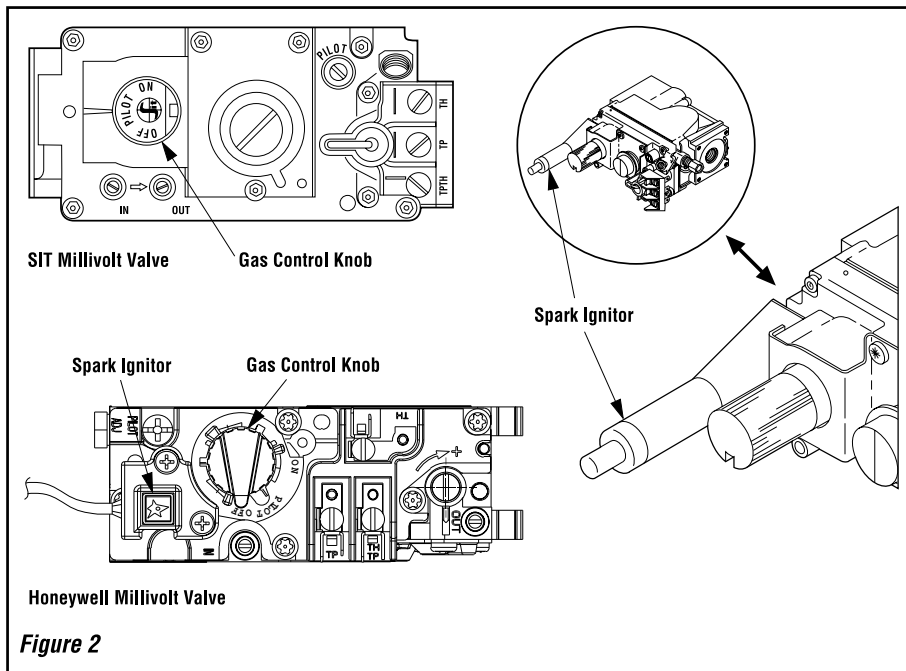
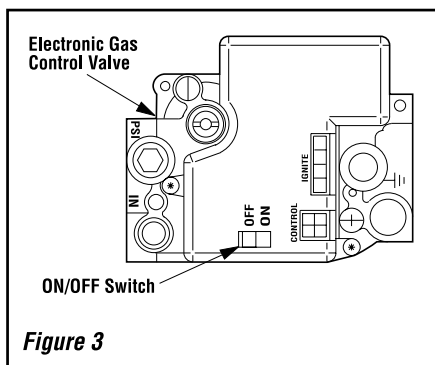

Figure 2
Figure 3
Millivolt appliances will be fitted with one of the two gas control valves shown in *Figure 2 on page 4*. Appliances with electronic systems will be fitted with the electronic valve shown in *Figure 3 on page 4*. Familiarize yourself with the differing controls for the valve your appliance uses.
**To light millivolt appliances** refer to the detailed lighting instructions found in both English and French on pages 10 and 11 of these instructions respectively. **Millivolt and electronic appliance lighting instructions may also be found on the pull out rating plate located within the gas control compartment.** Refer to *Figure 2* for the spark ignitor location used with your appliance.